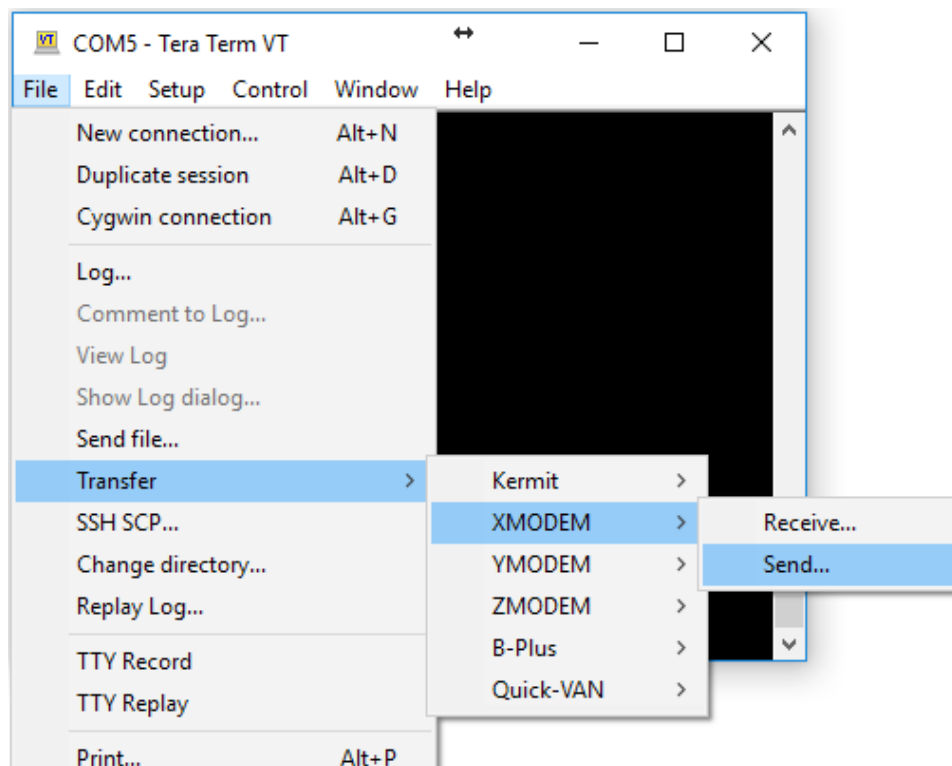

Figure 7.7: Terminal - XMODEM send
10. Send firmware file to QM20 (figure 7.7)